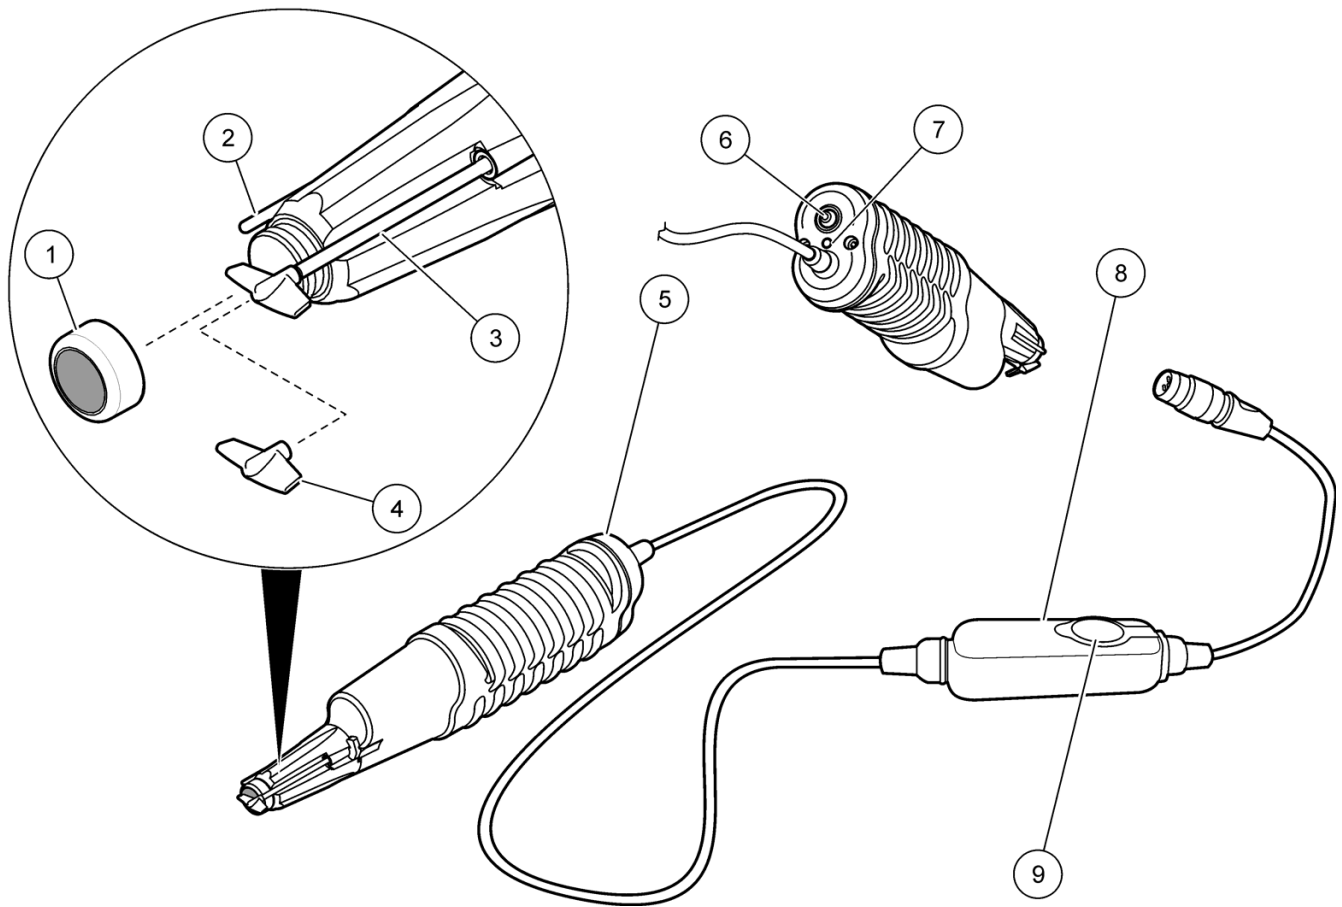

Figure 1 Probe overview
Figure 1 on page 2 shows the LBOD10101 probe, a luminescent dissolved oxygen (LDO®) sensor with an integrated stirring system. The LBOD10101 measures the dissolved oxygen for BOD (Biochemical Oxygen Demand) determination in BOD bottles. The probe uses the luminescent dissolved oxygen (LDO) technology (no membranes) and features a replaceable self-stirring assembly and a 1.8 meter cable.
1. Verify that the sensor cap and iButton are installed correctly (Figure 1). Avoid touching the sensor cap with a hand, fingers, or any surface that may scratch or cut the cap.
3. Pull to open the iButton®1 cover on the pressure-sensor module (Figure 1 on page 2.) Tip the module to remove the existing iButton.